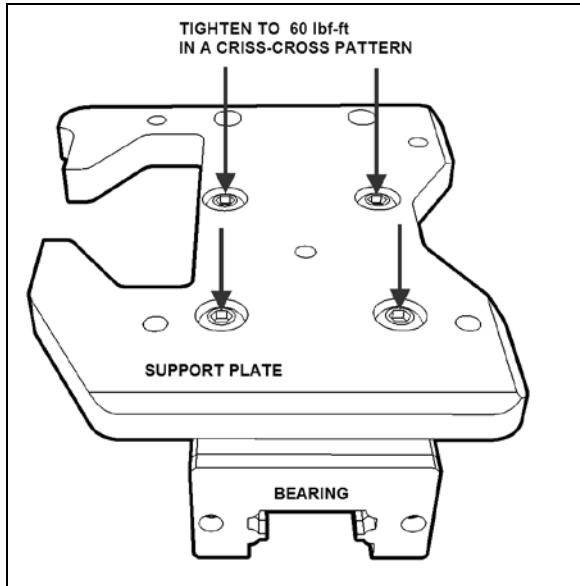

FIGURE 24: BEARING MOUNTING SCREWS
5. Remove the support and bearing assembly. Turn the assembly upside down to access the bearing mounting screws (Figure 24)